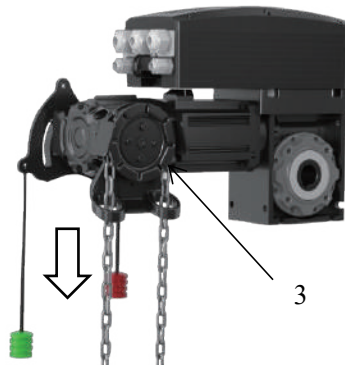

Fig 4
- The emergency release is activated when the chain wheel (3) has been moved by pulling the red emergency release cord to the direction of the arrow in Fig. 4.